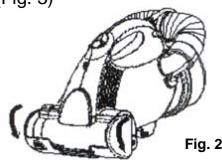

Fig. 2
- Rotate the brush cover by pushing on the brush cover release button until it clicks in place. (Fig. 2)